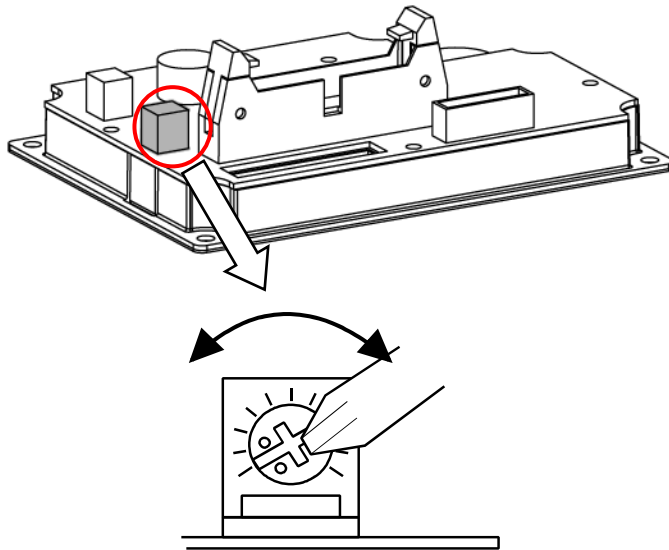

Figure 7-3 VRD ENABLE/DISABLE Step C
C) **ENABLE/DISABLE** the VRD function (see Figure 7-3).